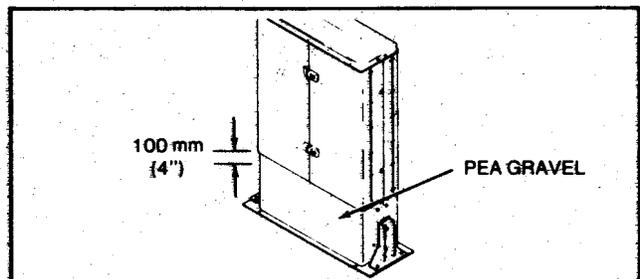

Fig. 18j
- (6) Upon completion of bonding, preparing and terminating the cables, replace the cabinet skirt. Make sure the skirt fits under the cabinet doors.
- (7) Retighten the four door bolts.
- (8) Fill the cabinet base with pea gravel to within 100 mm (4") of the top of the skirt. (See Fig. 18j.)